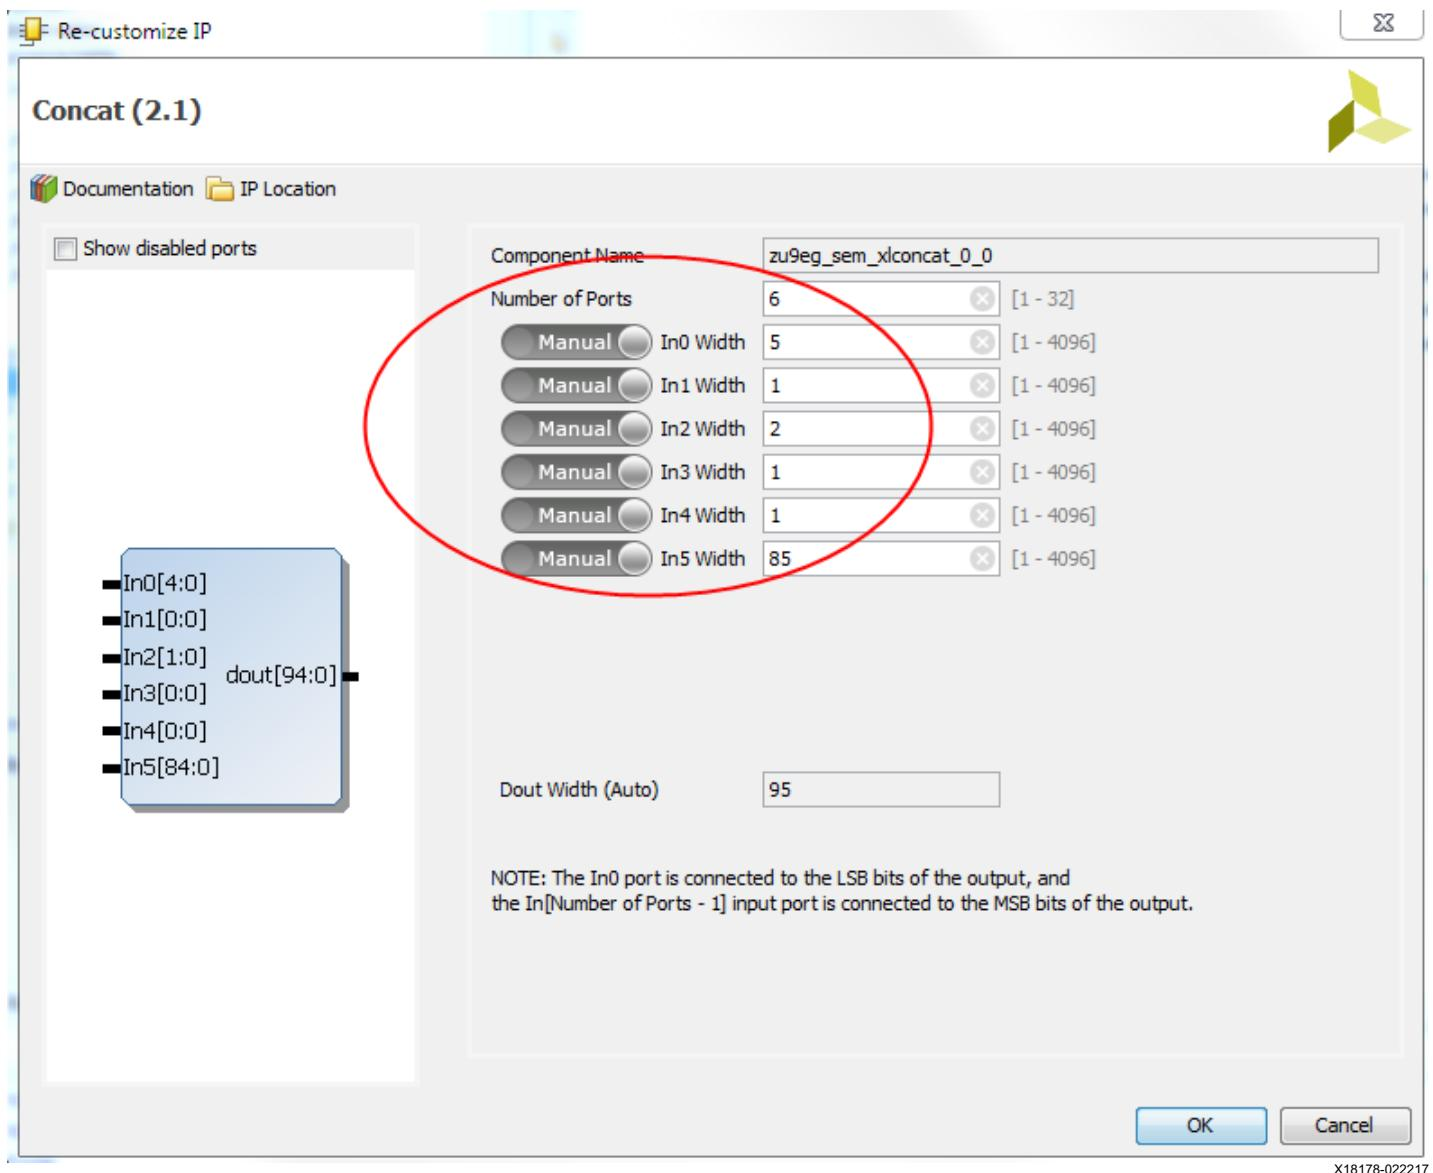

Figure 22: Design 2 - Configure Concat IP - Width 95
- b. Configure it to have **6** ports. Change Auto to **Manual** on all Ports. Set In0 Width to **5**, In1 Width to **1**, In2 Width to **2**, In3 Width to **1**, In4 Width to **1**, and In5 Width to **85**. Click **OK**. See Figure 22.